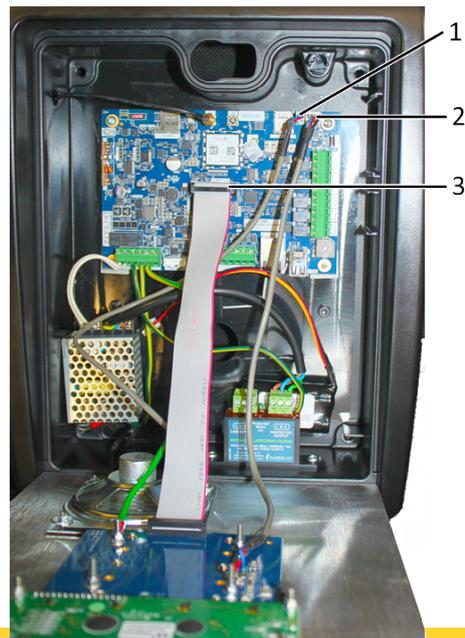

Figure 7: Disconnect Front Cover From PCB
9. Disconnect the Front Cover from the PCB (See Figure 7)¹:
- a. Disconnect the microphone connector (1) from the PCB.
- b. Disconnect the speaker connector (2) from the PCB.
- c. Disconnect the ribbon connector (3) from the PCB.